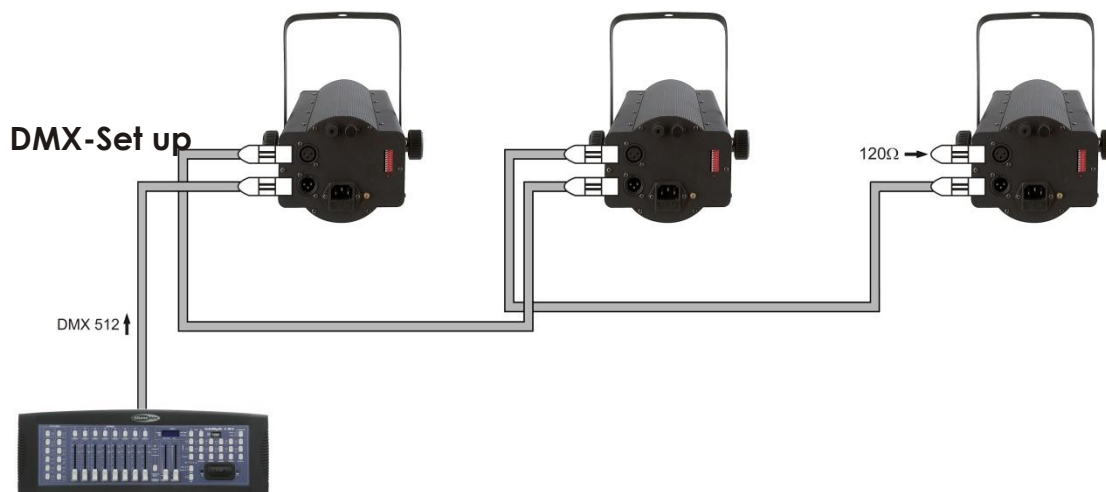

Fig. 4
3. Link the units as shown in (Fig. 4), Connect a DMX signal cable from the first unit's DMX "out" socket to the second unit's "in" socket. Repeat this process to link the second, third, and fourth units.